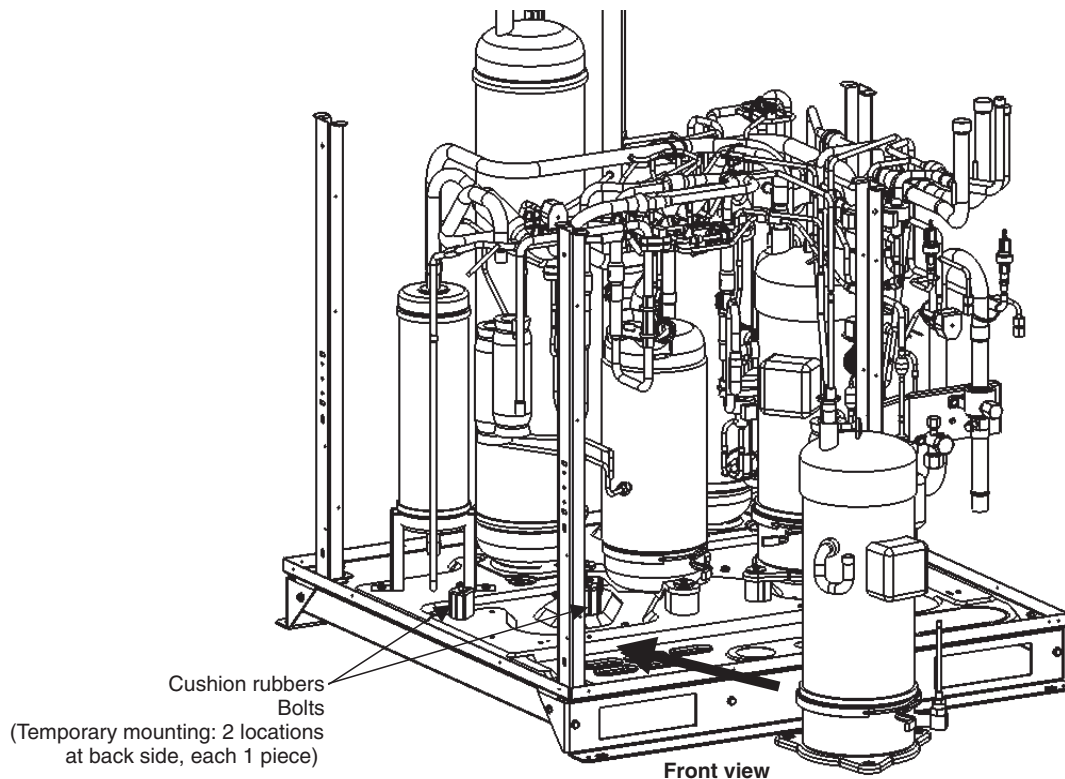

Fig. 27
- (3) Remove the oil equalizer tube connector parts along with the O-ring from the removed compressor and mount them on the replaced new compressor.
- (4) Install the crankcase heater onto the new compressor.
- (5) Temporary mount 2 cushion rubbers with bolts at the position as shown in the figure 27.